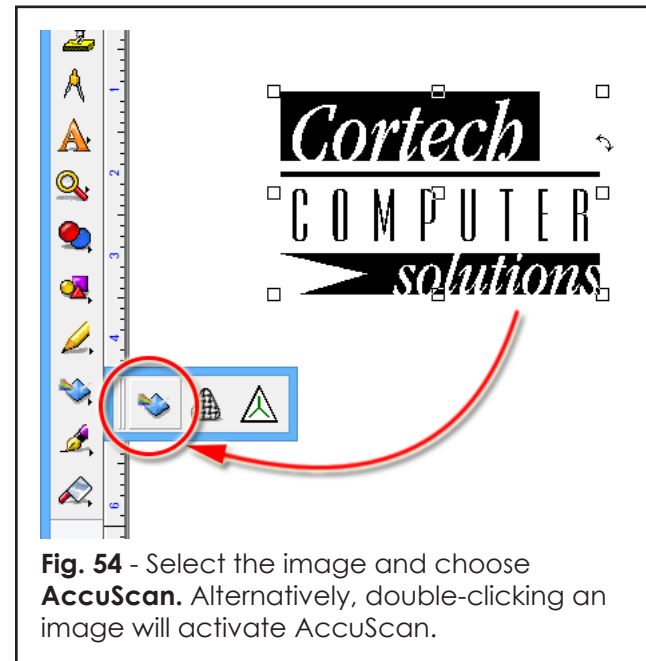

Fig. 54 - Select the image and choose **AccuScan**. Alternatively, double-clicking an image will activate AccuScan.
8. With the image selected, choose **AccuScan** from the **Scan Tools** flyout (Fig. 54).